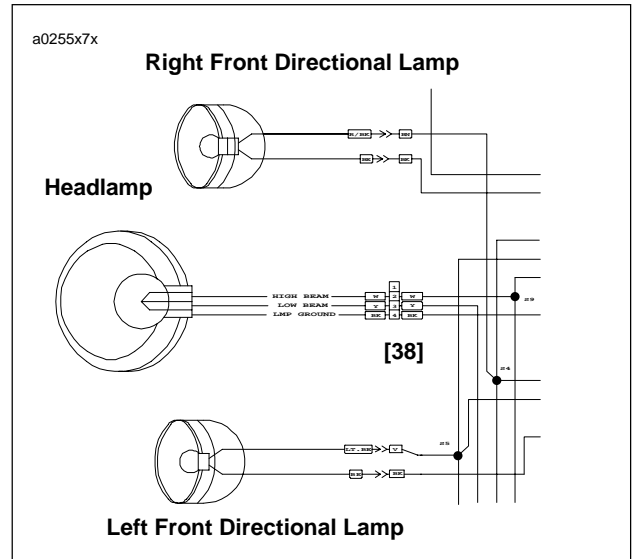

Figure 7-69. Front Turn Signal Connections
2. See Figure 7-69. Disconnect two bullet connectors on turn signal wires.
2. Attach two bullet connectors on turn signal wires as shown in Figure 7-69.